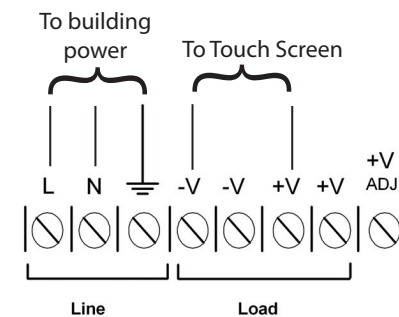

Figure 8: Terminal block wiring
2. Connect the building power supply wires to the MD-990 line terminal screws as shown in Figure 8.